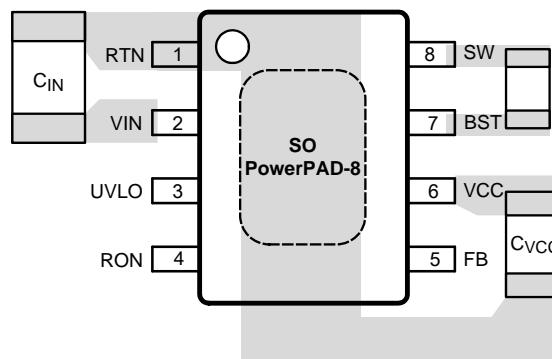

Figure 26. Placement of Bypass Capacitors
1. C_{IN} : The loop consisting of input capacitor (C_{IN}), V_{IN} pin, and RTN pin carries switching currents. Therefore the input capacitor should be placed close to the IC, directly across V_{IN} and RTN pins and the connections to these two pins should be direct to minimize the loop area. In general it is not possible to accommodate all of input capacitance near the IC. A good practice is to use a $0.1\text{-}\mu\text{F}$ or $0.47\text{-}\mu\text{F}$ capacitor directly across the V_{IN} and RTN pins close to the IC, and the remaining bulk capacitor as close as possible (see Figure 26 Placement of Bypass Capacitors).
2. C_{VCC} and C_{BST} : The V_{CC} and bootstrap (BST) bypass capacitors supply switching currents to the high- and low-side gate drivers. These two capacitors should also be placed as close to the IC as possible, and the connecting trace lengths and loop area should be minimized (See Figure 26).